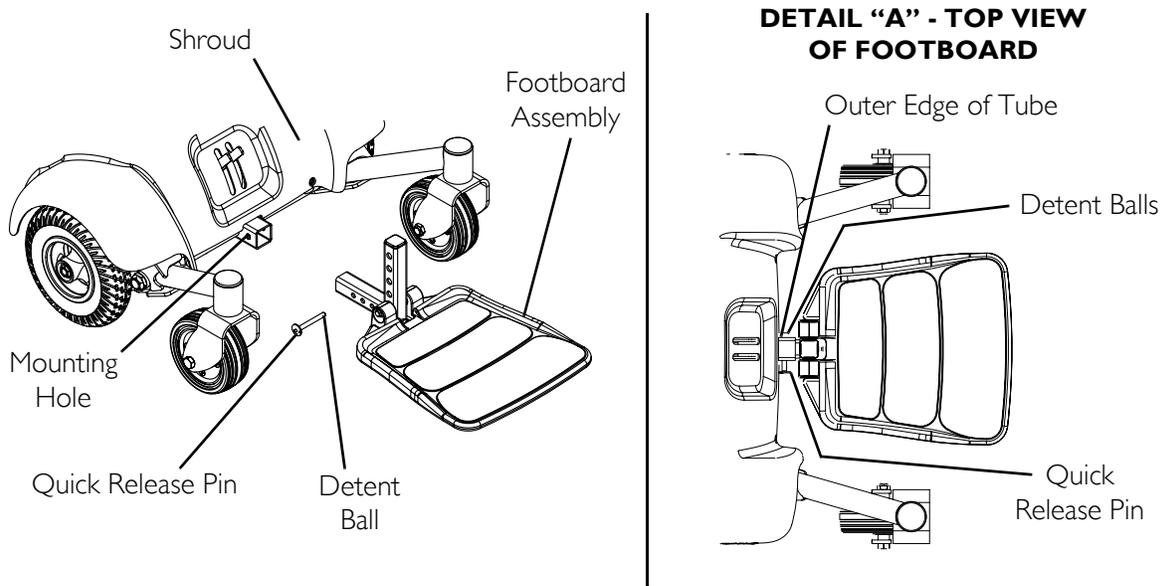

FIGURE 8.1 Removing/Installing the Footboard Assembly
NOTE: For this procedure, refer to FIGURE 8.1 on page 41.
2. Install the quick release pin by depressing the button while sliding the pin in. Ensure that the detent balls are engaged with the outer edge of the tube (Detail "A" of FIGURE 8.1).